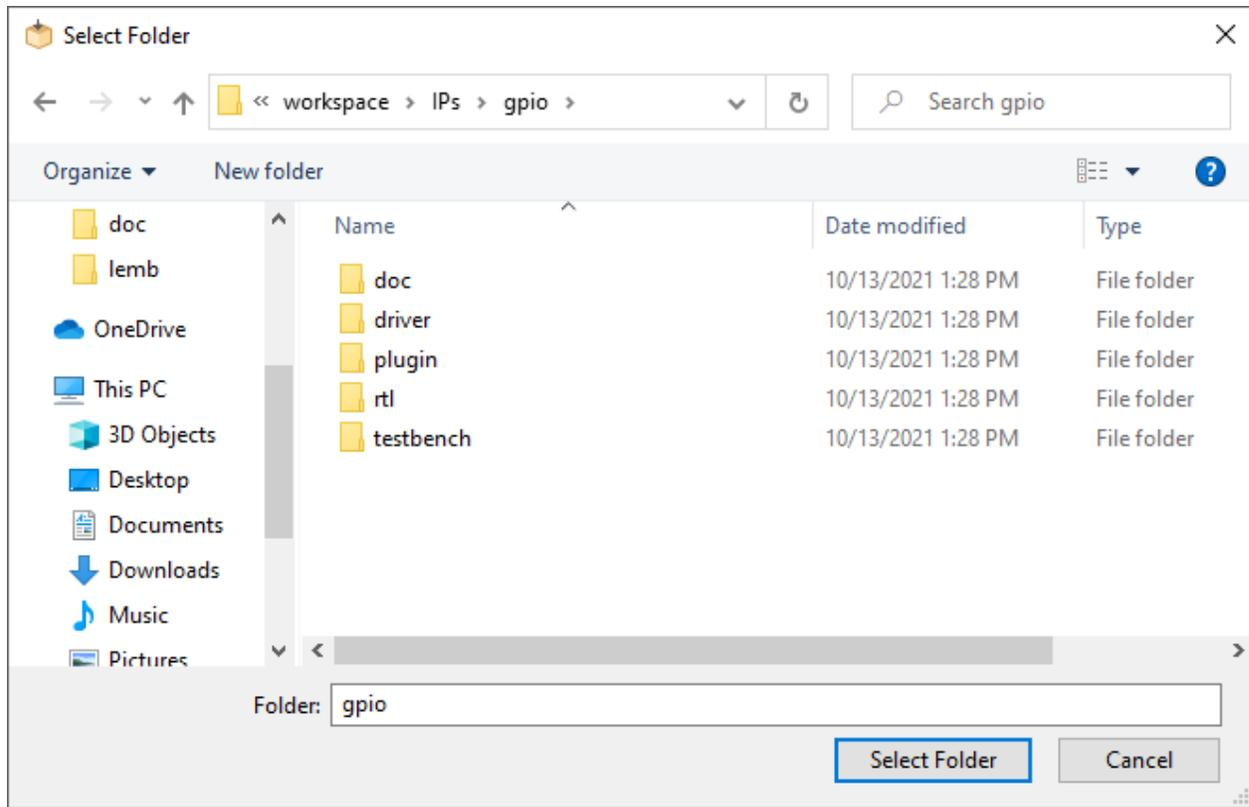

Figure 3.4. Select Folder Dialog
1. Choose **File** >  **Open IP Directory** from the Propel Builder Menu, or Click the **Open Design** icon  from Propel Builder Toolbar. The Select Folder dialog opens (Figure 3.4).